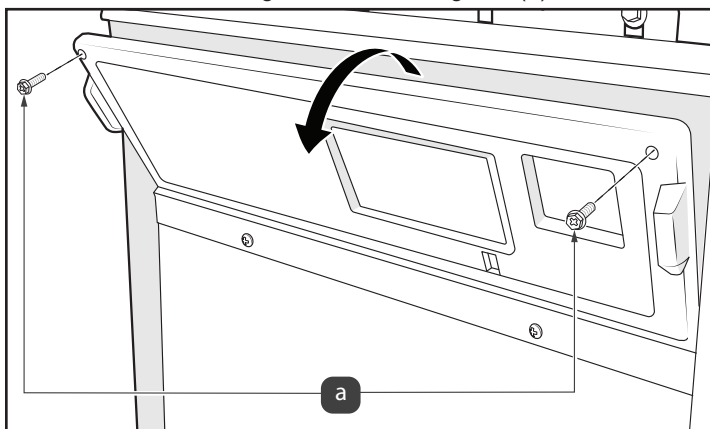

Figure 3. Remove Pentair Control Panel Screws
5. Remove the top two screws on Pentair control panel, swing panel down to allow access to wiring behind it, see Figure 3(a).